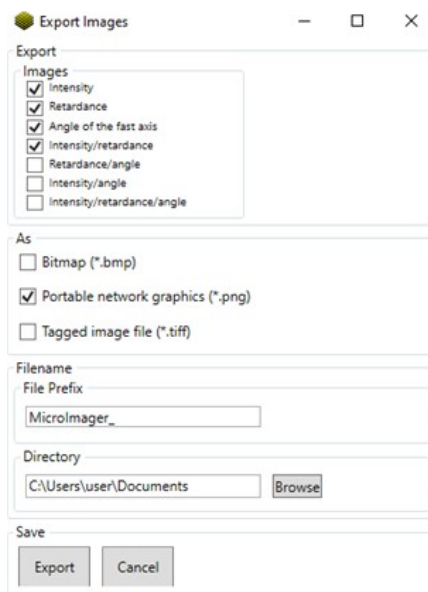

Fig. 14. Exporting Images
22. **Export Images**: It allows us to save the 7 different images of a dataset. For this, go to **File** → **Export Images** → mark the **Images** (e.g., **Intensity**, **Retardance**, **Angle of the fast axis**, etc.) → select image format → if needed, choose **File Prefix** → choose the **Directory** → press **Export** as shown in Fig. 14.